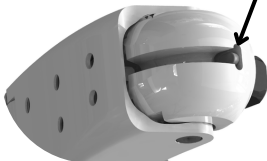

Fig. 5 (Bench Alignment of the Prosthesis)
2.4 Bench Alignment of the Prosthesis (Fig.5, Fig.6)
When mounting the foot component, the heel height of the shoe must be taken into account. Place the necessary spacer under the heel according to the "**x + 5 mm**" formula indicated in Fig. 5 and Fig. 6.
knee center) and the weight center (reference point) of the foot/shoe. This offset is critical for knee stability and swing phase transitions. See Fig. 5 for a detailed illustration.